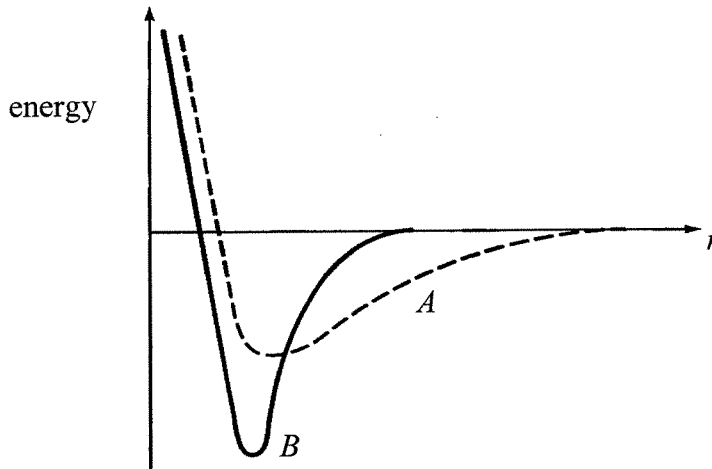

Fig. 6
- 6 (a) Two bond-energy curves where  $r$  is distance between a pair of neighbour atoms for material  $A$  and material  $B$  are shown in Fig. 6.